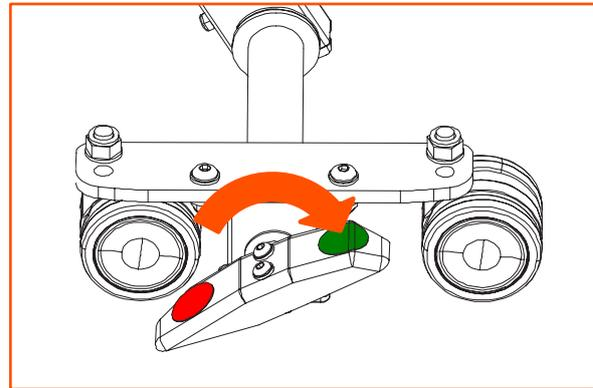

Figure 14.4
2. To unlock the brake, press firmly downwards on the side of the pedal with the green label as shown in Figure 14.4 until the brake releases.